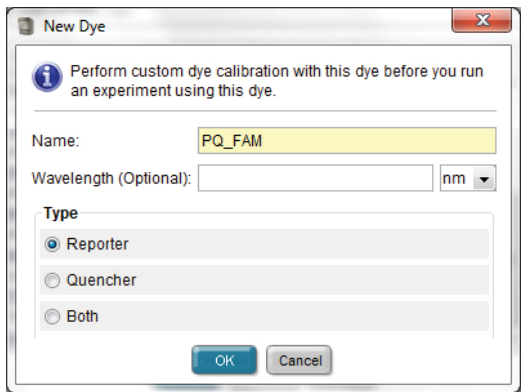

Figure 4. Naming the new dye.
9. Enter "PQ_FAM" as the new dye name, select the **Reporter** radio button under "Type" and then select **OK** (Figure 4). Repeat this process to define the CFG540 (define as PQ_CFG540), TMR (define as PQ_TMR), Q670 (define as PQ_Q670) and CXR (define as PQ_CXR) dyes.